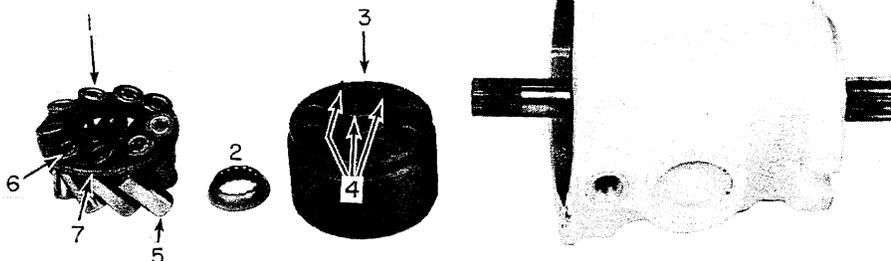

FIGURE 29
14. Placing a hand over the open end of the housing assembly and tilting down will allow the rotating group (3) to be removed from the housing intact. Figure 29 shows the rotating group removed and the major parts identified. The piston assembly and spider is shown at (1), pivot washer at (2), and piston block (3), with three pressure pins (4).
PLACE ONE OF THE FLAT WASHERS OVER THE 5/16" x 2 7/8" CAP SCREW AND PLACE THIS THROUGH THE CENTER OF THE PISTON BLOCK. PLACE THE OTHER WASHER OVER THE CAP SCREW AND LET IT REST ON THE THREE PINS (4), FIGURE 29. SCREW THE NUT ON AND COMPRESS THE SPRING INSIDE THE PISTON BLOCK. USE A PAIR OF SNAP RING PLIERS AND REMOVE THE INTERNAL SNAP RING. REMOVE THE BOLT AND THE TWO WASHERS. REMOVE THE WASHER, SPRING, WASHER, AND THREE PINS, AND THE INTERNAL PIN KEEPER.
- B. The pistons should be free to move in the block bore. If not, check for piston scoring or block bore contamination. The outside of the pistons (5), Figure 29, should not show any deep scratches or wear. The piston shoes (6), Figure 29, should fit on the ball end of the piston snugly. The flat surface of the piston shoe should be smooth and not show any scratches. There should not be any wear to the outside edge of the shoe. If necessary, replace the piston assemblies. Do not lap the piston shoes.
- C. The spider (7), Figure 29, should be inspected for any cracks, wear in the pivot area, or warpage. The pivot (2), Figure 29, should be smooth and show no signs of wear.
8. Set the pivot washer (2), Figure 29, on top three pins (4). Install the pistons in the spider and slide the lubricated pistons in the piston block.